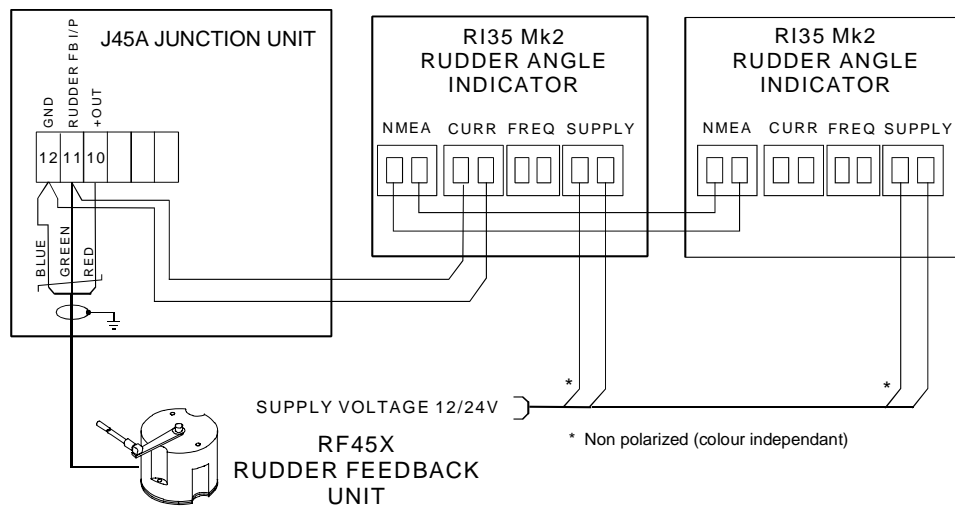

Figure 3-7 RI35 Mk2 - J45A Wiring diagram
- Rev. Db Modification on RF45 PCB. S1 plug-in strap removed on figure 3-7.